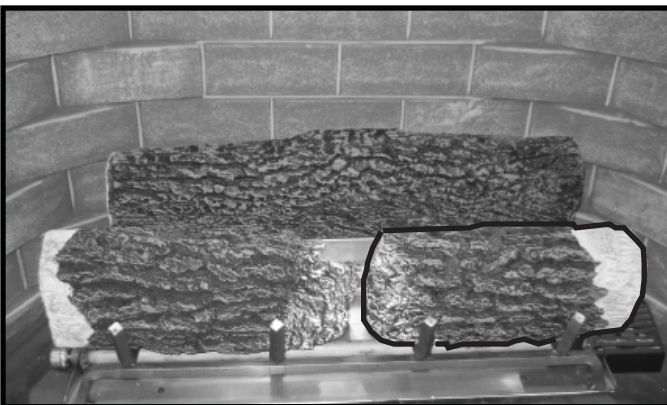

Figure 8.7 Place Right Front Log
- Place right front log on the grate against the front of the grate. Fit notches into the bottom of the log to position it as shown in Figure 8.7